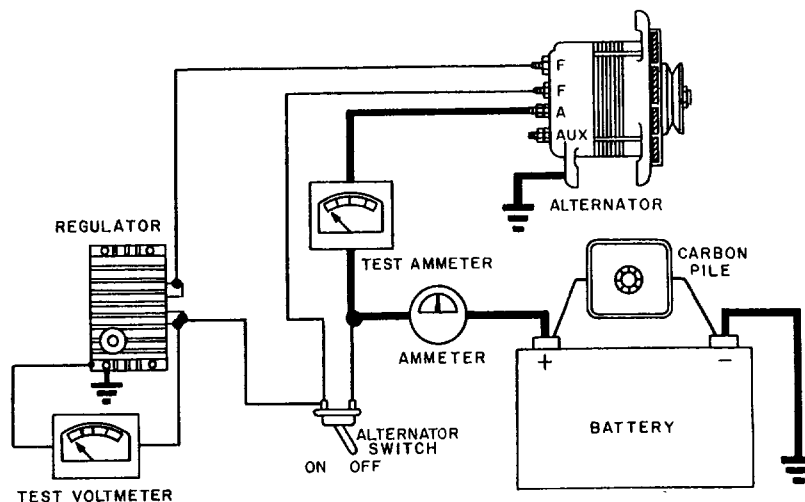

Figure 2.
1. The procedure for testing this regulator, whether on the vehicle or on the test bench, remains the same. Connect test meters as shown in Fig. 2.
4. Connect the voltmeter and the ammeter as shown in Figure 2. Start the engine and adjust its speed to obtain 3,000 to 4,000 alternator RPM. Turn on accessories as needed to establish 10 to 15 ampere electrical load, or use a carbon-pile across the battery to obtain this charge rate.